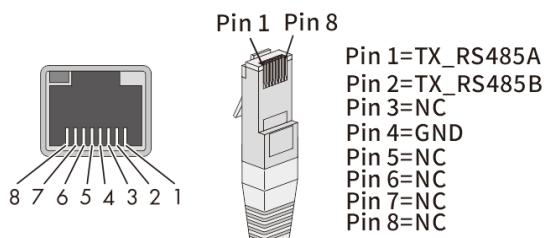

Fig. 30. Cable pin assignment
1. Strip the insulation from the wire and crimp it into the corresponding terminal (see Fig. 30 pursuant to DIN 46228-4)